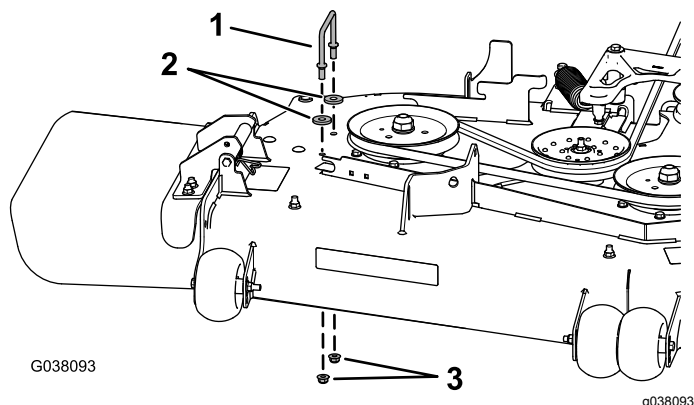

Figure 5
3. Remove the right belt-cover bracket, **2 washers (60-inch mower deck only)**, and 2 flange nuts from the mower deck (Figure 5).